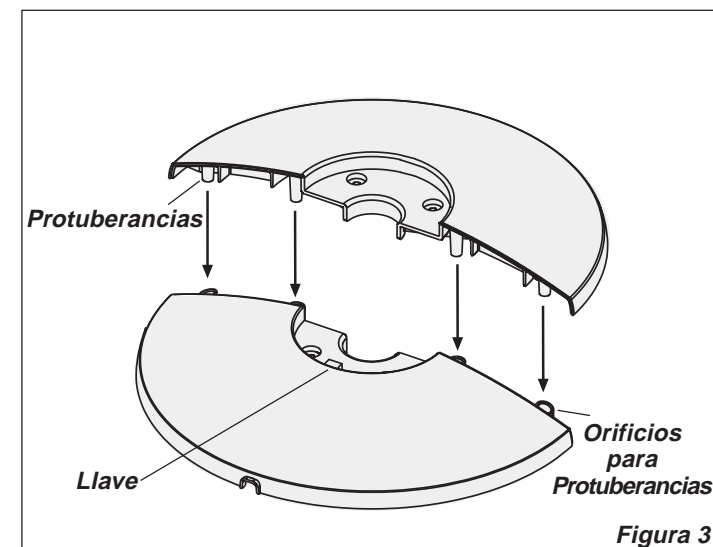

Figure 3
- 3. Assemble the Base by interlocking the **Bosses** into the **Boss Holes**. (Figure 3)